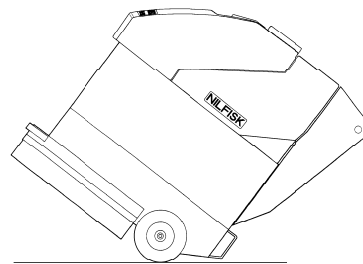

FIGURE 5
- 5 See Figure 5. Tip the machine back as shown and place a jack stand under the front end.